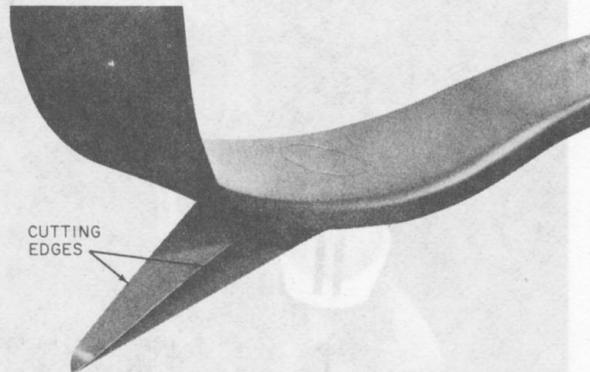

Fig. 16—Gaff Cutting Edges
7.01 During normal use of climbers the edges along inner surface (cutting edges), Fig. 16, may become dull. The honing stone should be used to maintain sharp edges. Remember that